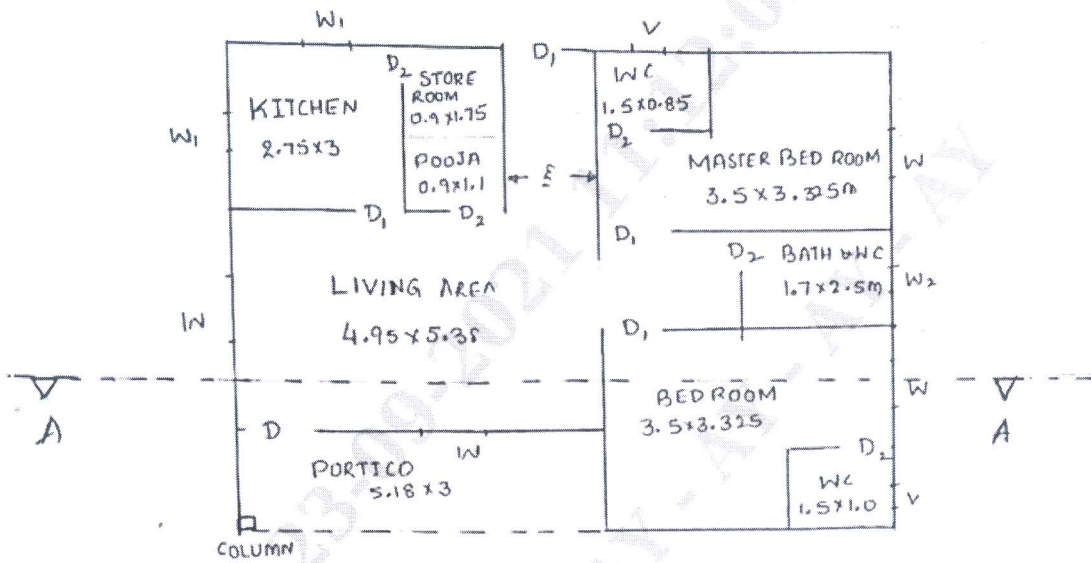

Fig. Q5
- Q5 Line diagram of Single Storey residential building is given in figure Q5. Draw to scale the following: